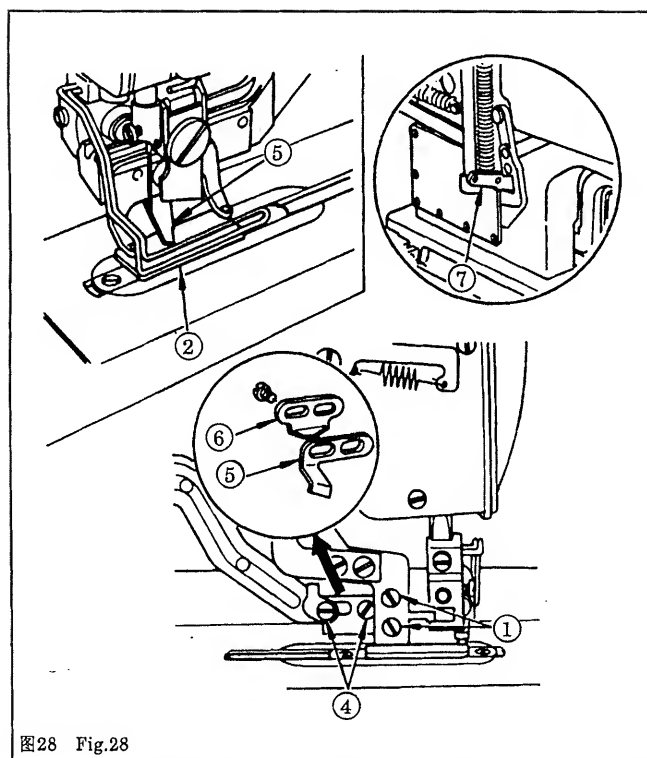

图28 Fig.28
25. 面线剪刀的调节 图28
25. ADJUSTMENT OF THE NEEDLE THREAD TRIMMER Fig.28